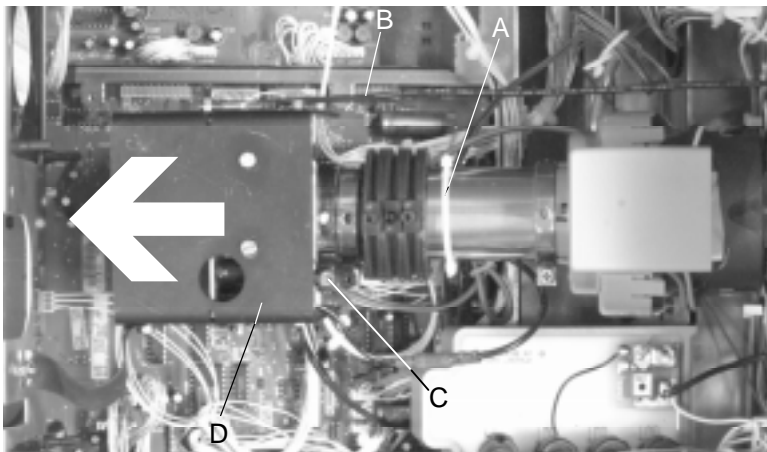

Fig. 2
7. Push the CRT Socket module on the picture tube (see Fig. 2).